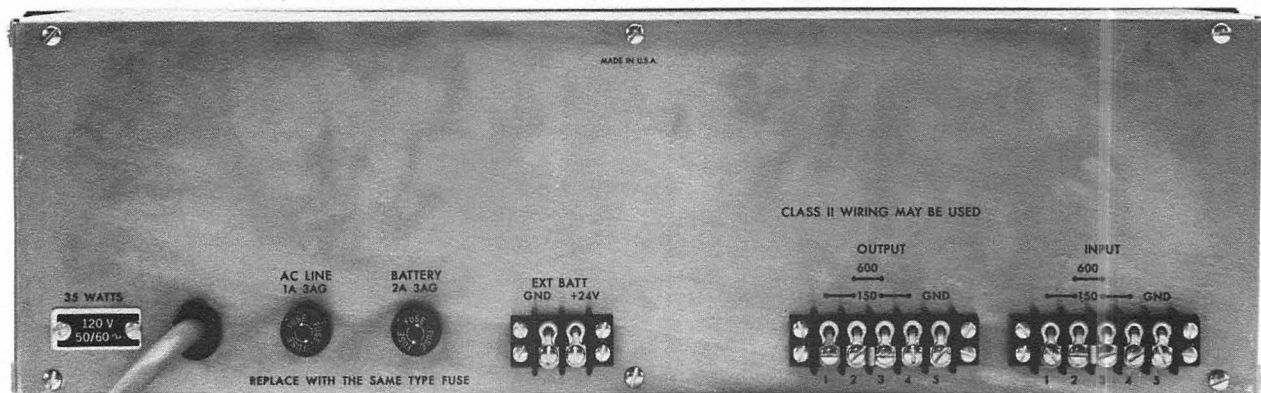

Figure 1. Electrical Connections
Equipment supplied for domestic use is provided with the power transformer strapped for 120 volts (terminals 2 to 3 and 4 to 5 on TB4). The power input nameplate on the chassis adjacent to the power cord is mounted to show the appropriate side specifying the connections (see Figure 1). Verify that line voltage is in accordance with the voltage rating before connecting the 9860A to line power.
6. Change ac line fuse (F1) from the existing 1A fuse to a 1/2A fuse (see Figure 1). Place a 1/2A ac line rating tag on tag on the back of the 9860A, above the AC LINE fuse.
If desired, the 9860A may be connected to an external 24/28V battery with minus (-) as ground. Terminals for the dc power connections are on TB3 (see Figures 1 and 8). If ac power fails, transfer to dc power is instantaneous, automatic and silent.
Input to the 9860A is connected to the INPUT terminal board (TB1) on the rear panel of the chassis (see Figures 1, 4 and 8). Connections to ALTEC power amplifiers must be made with two-conductor, twisted and shielded cable, such as Belden 8450 or 8451 cable.
Output from the 9860A is connected to the OUTPUT terminal board (TB2) on the rear panel of the chassis (see Figures 1, 4 and 8). Terminal connections and cable requirements are the same as described for input connections.